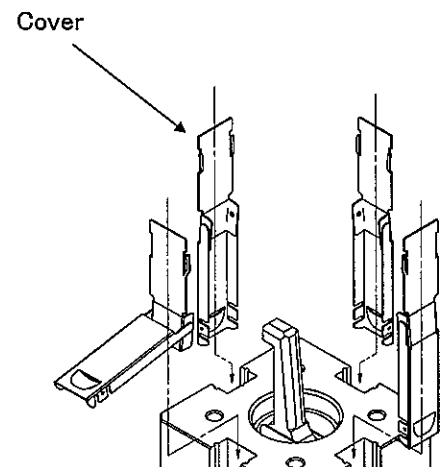

Fig. 7-15
- Mount the cover on the body. (Fig. 7-15) Note: Mind the direction.